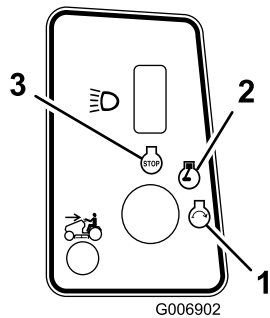

Figure 11
- Turn the ignition key clockwise and hold it in the Start position (Figure 11). When the engine starts, release the key.
- Turn the ignition key to Off, wait for all moving parts to stop, and remove the key before leaving the operating position. (Figure 11).